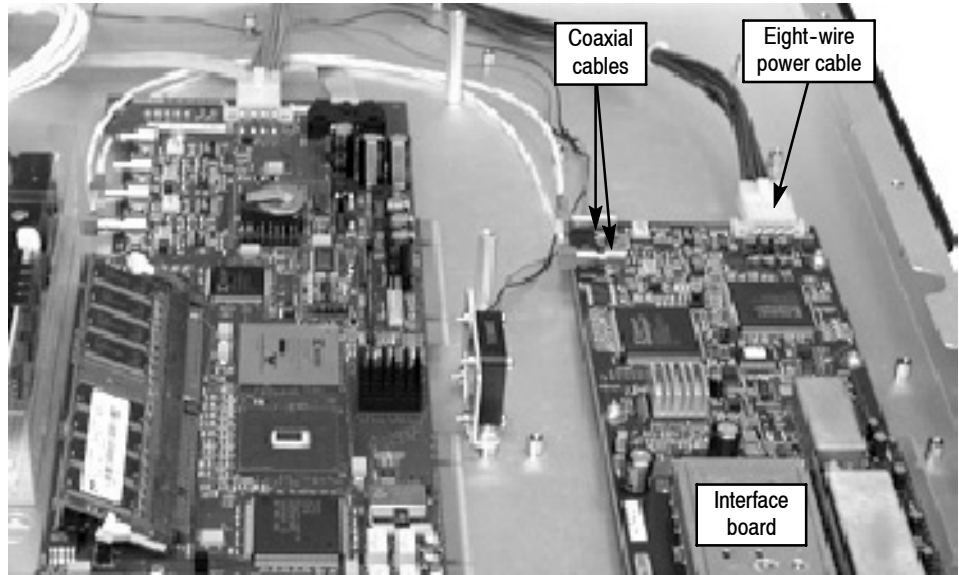

Figure 21: Cable connections for QAM (Annex A), QAM (Annex B, old version), QAM (Annex C), and QPSK (L-Band) interface boards
- Connect one coaxial cable from the connector labeled O/P on the interface board to the connector labeled I/P A on the TS Processor board. This is a push-fit connector. See Figure 21 for cable locations.